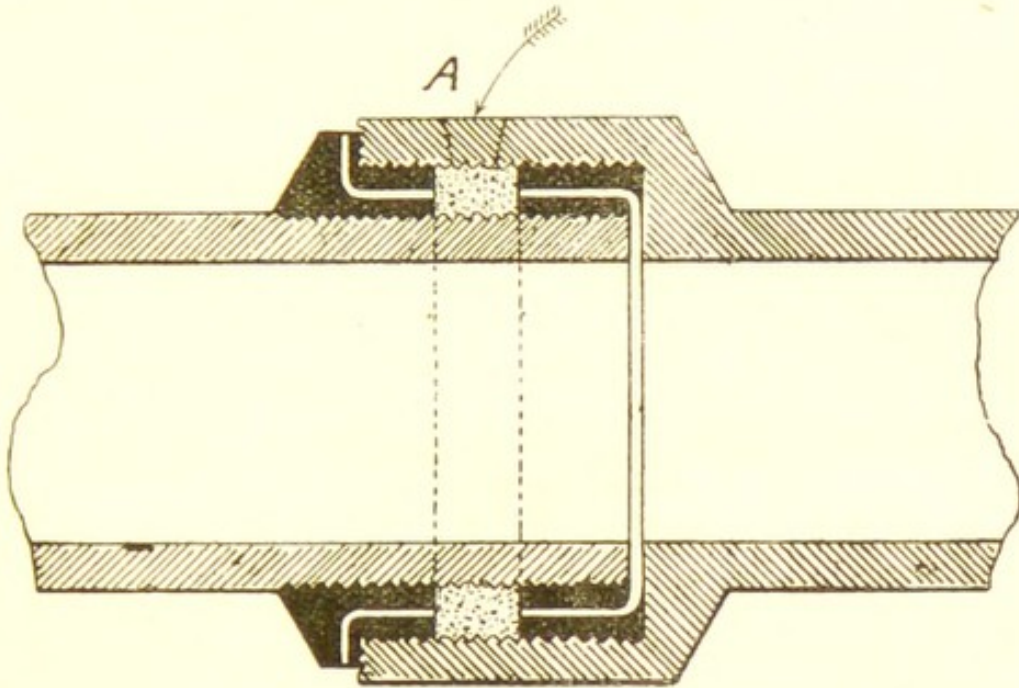

FIG. 9.
*Hassall's Patent Safety-Jointed Pipes* (Fig. 9) can be used with advantage. The joints may be described as follows: Two bands of special bituminous material are cast on to the spigot end of the pipe about  $1\frac{1}{2}$  in. apart, and corresponding rings of the same tough mixture are cast inside the pipe socket, also about  $1\frac{1}{2}$  in. apart. These two sets of rings, when